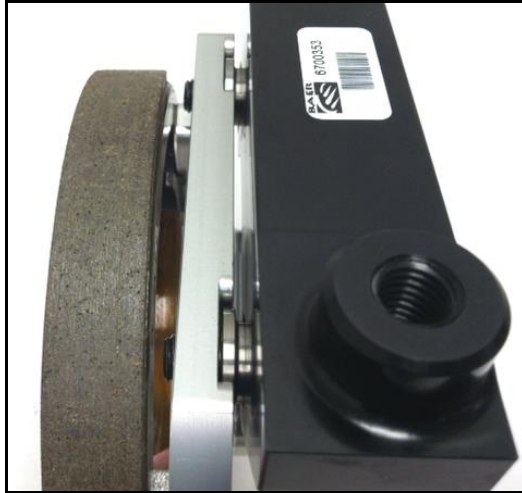

Figure 5: Caliper bracket installed
10. The caliper bracket is shipped with the caliper. Remove this and install it on the slider pins installed in the park bracket. Just snug these bolts as they will be removed for shimming the caliper. Figure 5 shows the bracket properly installed.